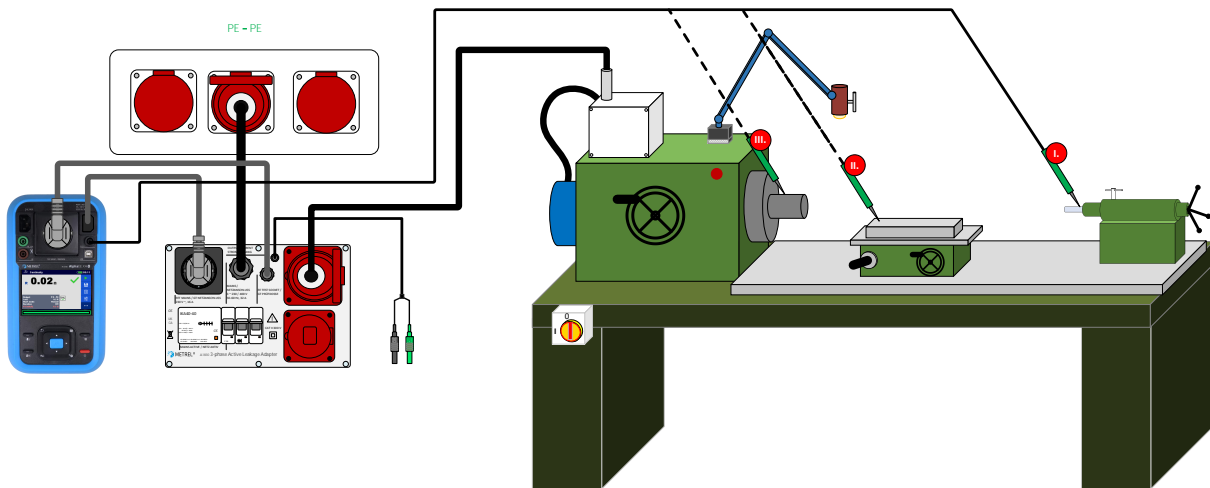

Figure 119_Continuity of protective earth
- Connect the DUT according to the connection diagram Figure 119_Continuity of protective earth,